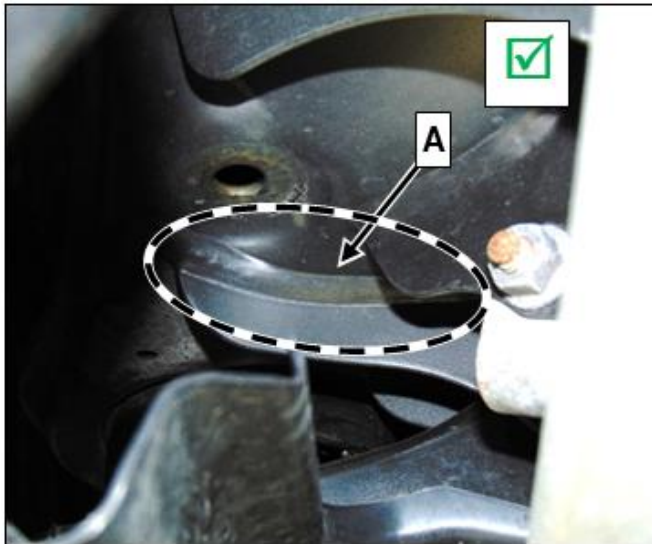

Figure 2
2. Check weld seam (A, figure 2) of thrust arm connection to rear axle carrier **on both sides**.